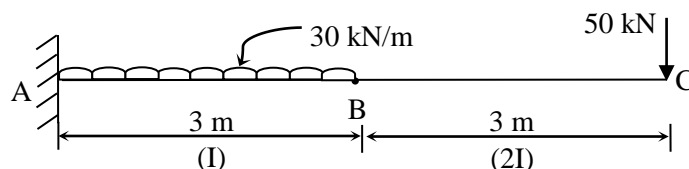

Fig. 3
- (b) Find Deflection at free end of the beam shown in Fig.3 by Conjugate Beam method. Take $E=2 \times 10^5 \text{ N/mm}^2$ and $I=2 \times 10^{10} \text{ mm}^4$. **07**